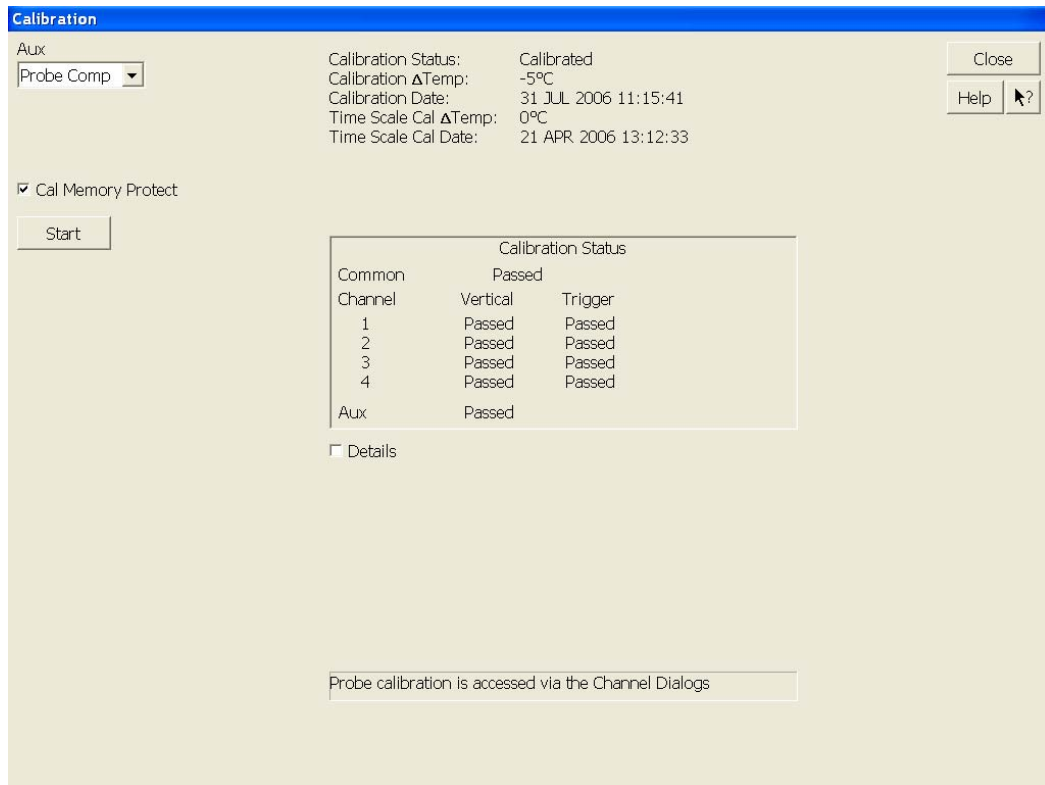

Figure 93 Oscilloscope Calibration Window
- 4 Referring to Figure 93 below, perform the following steps to start the calibration: